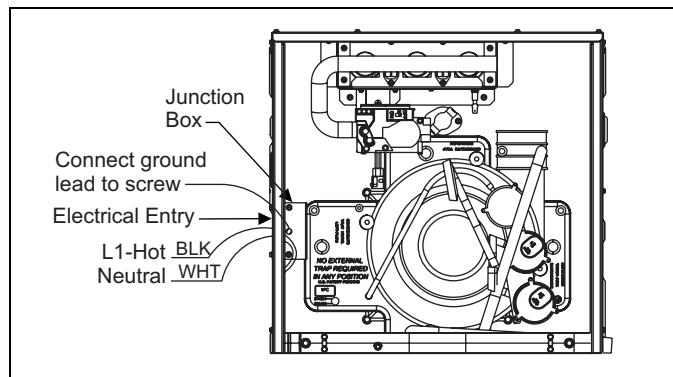

FIGURE 17: Electrical Wiring
2. Remove the wiring box cover screws. Route all power wiring through a conduit connector or other proper bushing that has been installed into the unit opening and the junction box. In the junction box there is a black wire, a white wire and a green ground screw. Connect the power supply as shown on the unit's wiring label located on the inside of the blower compartment door, or the wiring schematic in this section. Connect the black wire to L1 (hot) from the power supply. Connect the white wire to neutral. Connect the ground wire (installer-supplied) to the green (equipment ground) screw. An alternate wiring method is to use a field-provided 2" (5.1 cm) x 4" (10.2 cm) box and cover on the outside of the furnace. Route the furnace leads into the box using a protective bushing where the wires pass through the furnace panel. After making the wiring connections replace the wiring box cover and screws. Refer to Figures 17.
3. The furnace's control system requires correct polarity of the power supply and a proper ground connection. Refer to Figures 17.